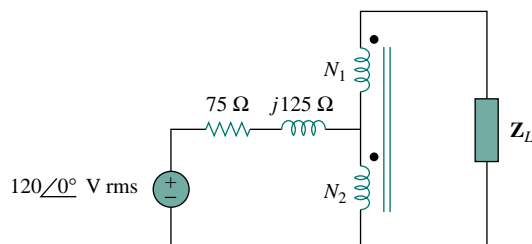

Figure 13.116 For Prob. 13.50.
- *13.50** In the circuit of Fig. 13.116, \mathbf{Z}_L is adjusted until maximum average power is delivered to \mathbf{Z}_L . Find \mathbf{Z}_L and the maximum average power transferred to it. Take $N_1 = 600$ turns and $N_2 = 200$ turns.